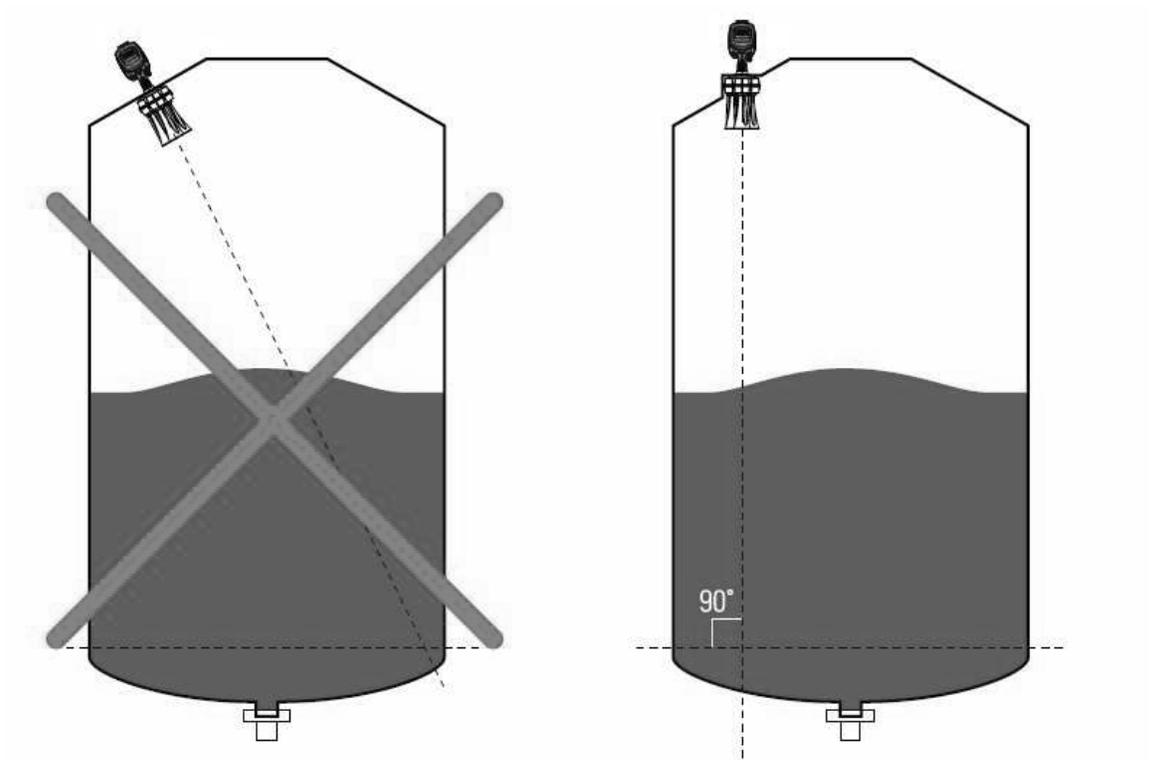

Figure 22 Mounting Positions
- ⦿ The scanner must be mounted in a vertical position so that the horns/antennas are at a 90° angle to the ground, as shown in Figure 22.